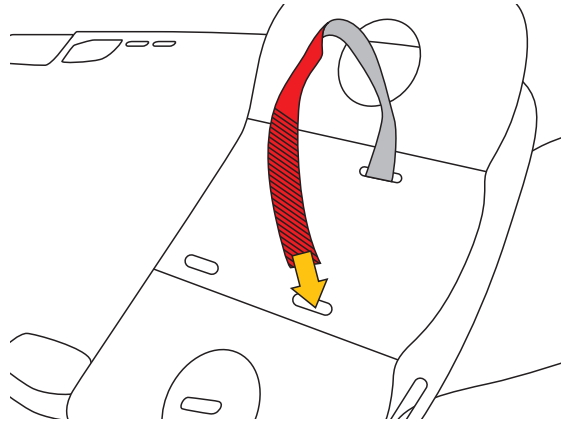

Fig.5
a) Insert the Velcro straps into the slots of the head immobiliser and spinal board (Fig. 5).